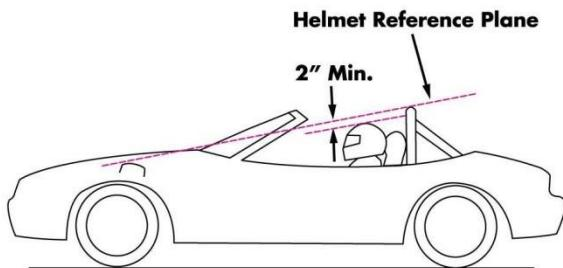

Figure 1. Helmet Reference Plane
- 1.1. With the driver and passenger seated normally and restrained by the seat belts/harnesses, a plane (the "Helmet Reference Plane") drawn from the top of the roll bar (excluding padding) to structural parts of the chassis in front of the base of the windshield (e.g., top of front suspension strut towers) shall pass at least two (2) inches above both the driver's and passenger's helmets. See Figure 1.